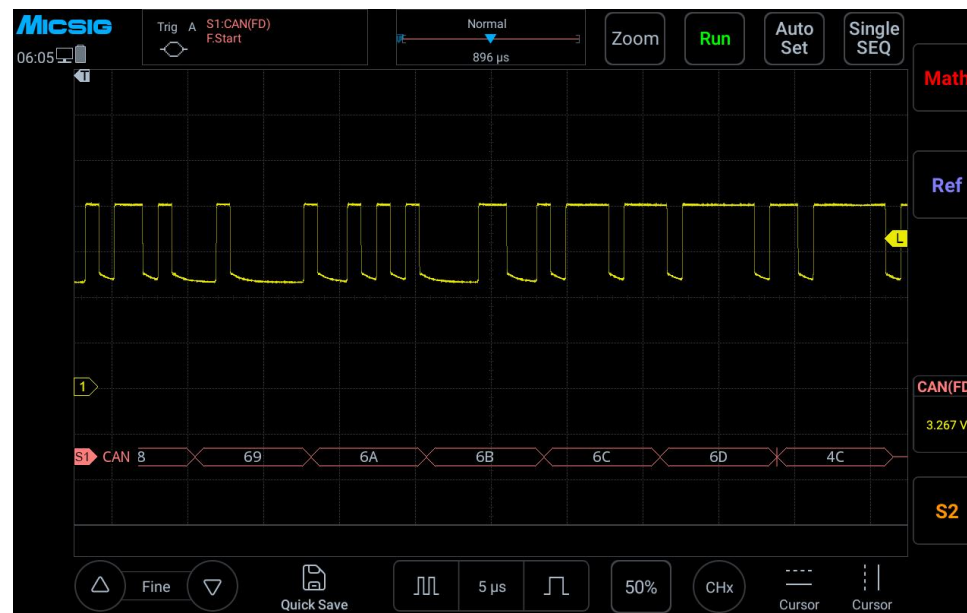

Figure 13-16 CAN bus decode interface
- (3) Open the trigger mode configuration menu and click “Frame Start”;
- (4) Adjust the threshold level according to the signal amplitude; the CAN trigger graphic interface is shown in Figure 13-16: